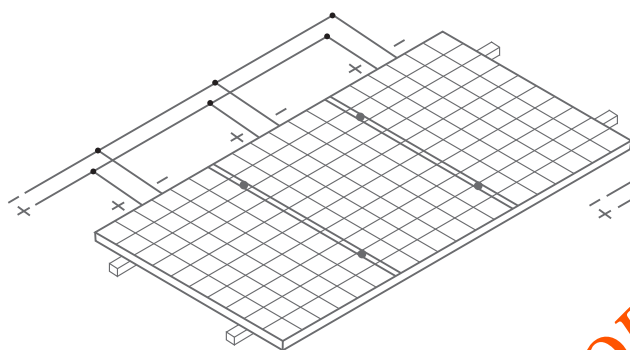

Figure 6
- When connected in series, the maximum number of the Modules are determined by the system design, inverter type and environment. (shown in Figure 6).